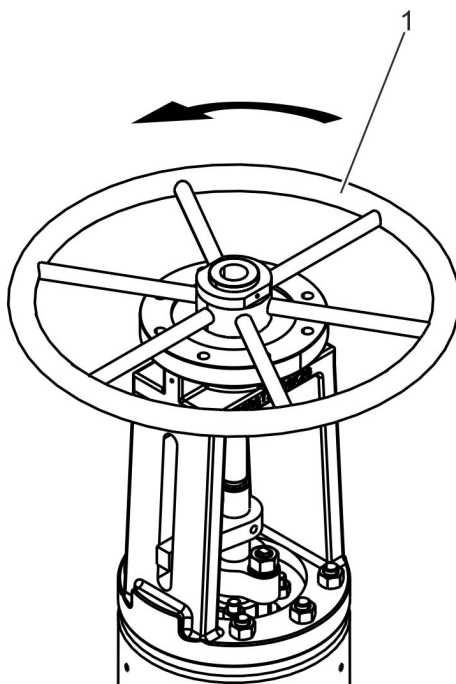

Fig. 18: Opening the valve
1. ➤ Turn the handwheel (Fig. 18/1) anticlockwise.